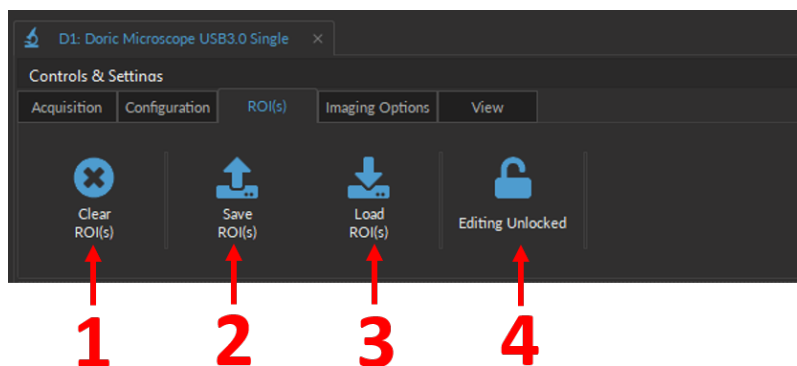

Figure 5.15: Microscope ROI(s) Tab
1. The **Clear ROI(s)** button (Fig. 5.15) is used to delete all the ROI(s) drawn.
2. The **Save ROI(s)** button (Fig. 5.15) will save all **ROI** configuration in a **.doric** format file.
3. The **Load configuration** button (Fig. 5.15) will load the ROI(s) contained in a **.doric** file.
4. The **Editing Unlocked/Locked** button (Fig. 5.15) is used to block ROI edition.